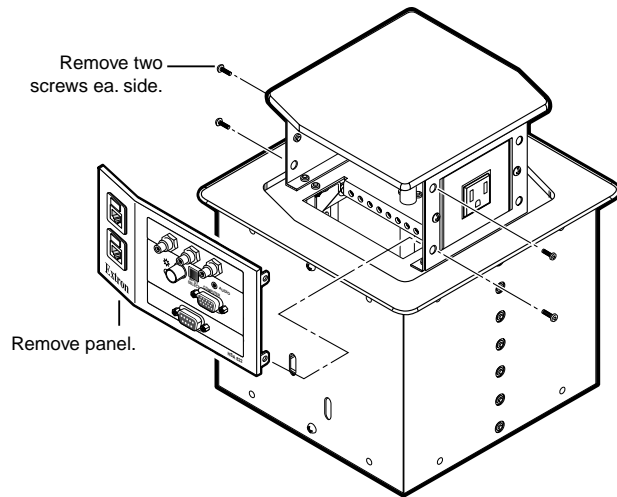

Figure 12. Removing the AAP Panel
2. Remove the top and bottom screws on the right and left sides of the AAP panel (see figure 12 on the next page). Retain the screws. Lift the panel away from the enclosure as far as the connected cables allow and then allow the panel to dangle, supported by its connected cables.
1. Remove the top and bottom screws on the right and left sides of the AAP panel (see figure 12). Retain the screws. Lift the panel away from the enclosure as far as the connected cables allow and then allow the panel to dangle, supported by its connected cables.
3. On both AAP panels, remove the top and bottom screws on the right and left sides of the AAP panel (see figure 12 on page 18). Retain the screws. Lift the panels away from the enclosure as far as the connected cables allow and then allow the panels to dangle, supported by their connected cables.